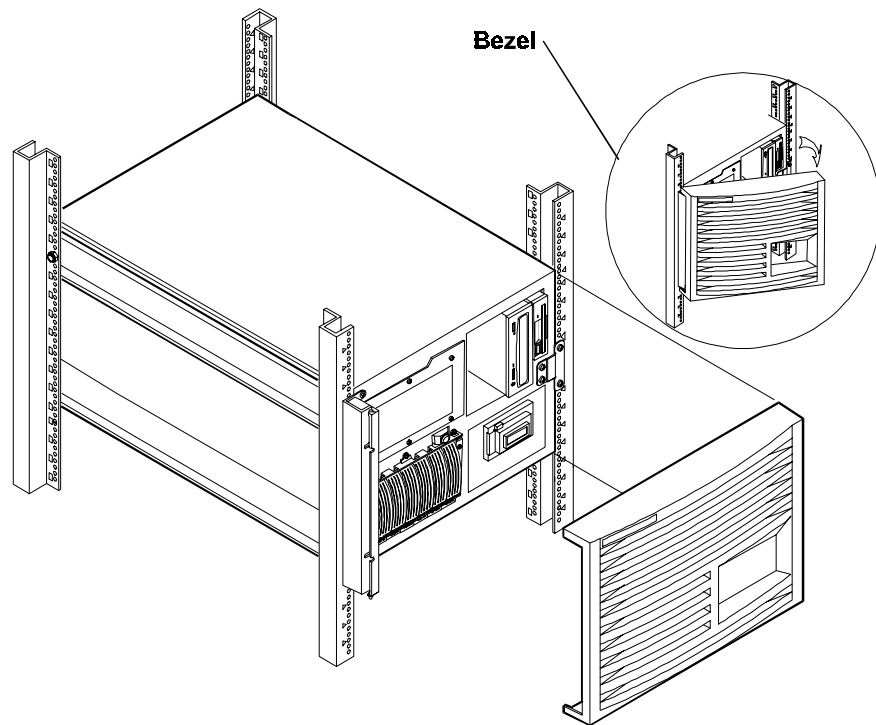

Figure 8-18. Snap Bezel into Place
13. Snap the bezel in place so it swings open to access the HP NetServer LH 3r internal mass storage cage. See Figure 8-18.